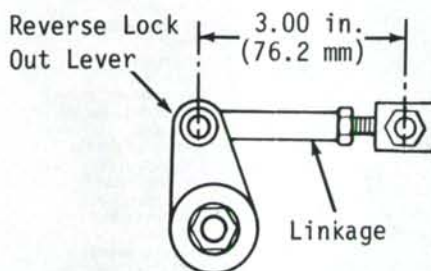

Fig. 172—Adjust reverse lockout linkage to obtain a distance of 3.00 inches (76.2 mm) between center of pins on Models 2094, 2294, 2394 and 2594.
On Models 2094 and 2294, reverse lockout linkage (14) should be adjusted to obtain a distance of 3.00 inches (76.2 mm) between center of pins as shown in Fig. 172.
On Models 2394 and 2594, reverse lockout linkage (14) should be adjusted to obtain a distance of 3.00 inches (76.2 mm) between center of pins as shown in Fig. 172.